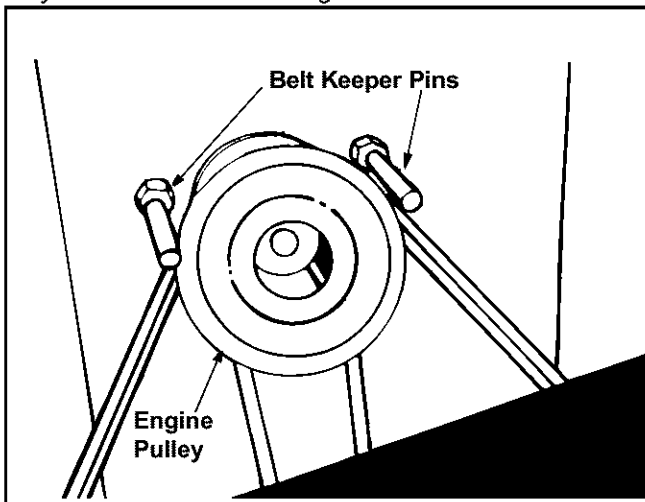
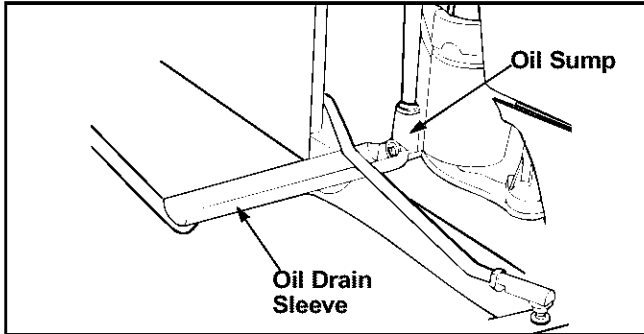

Figure 22
Figure 26
**NOTE:** Figure 22 and Figure 26 are shown with the unit tipped up for clarity. It is not necessary to tip the unit to remove the belts. However, for convenience, if you decide to tip it, remove the battery from the unit first.
**NOTE:** When reassembling, make certain belt keeper pins are assembled in the same locations from which they were removed. See Figure 22.
- Remove the belt keeper pins from the lower frame. Refer to Figure 22.
- Your lawn tractor may have a plastic oil drain sleeve packed with the loose parts for your convenience in draining oil from the crankcase. To drain the oil, snap small end of oil drain sleeve onto oil sump. Remove drain plug and drain oil into a suitable container. See Figure 26.